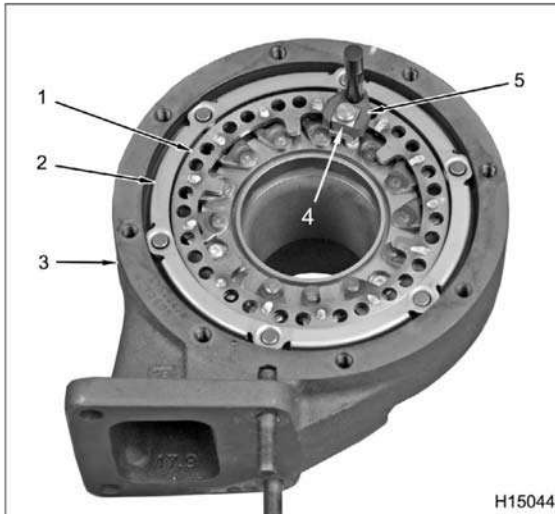

Figure 7 Removal of pivot shaft, outer ring, and unison ring
13. Clean the pilot area of the center section that contacts the unison ring. Remove debris from the housing with an oil solvent or carburetor cleaner and compressed air (Figure 7).